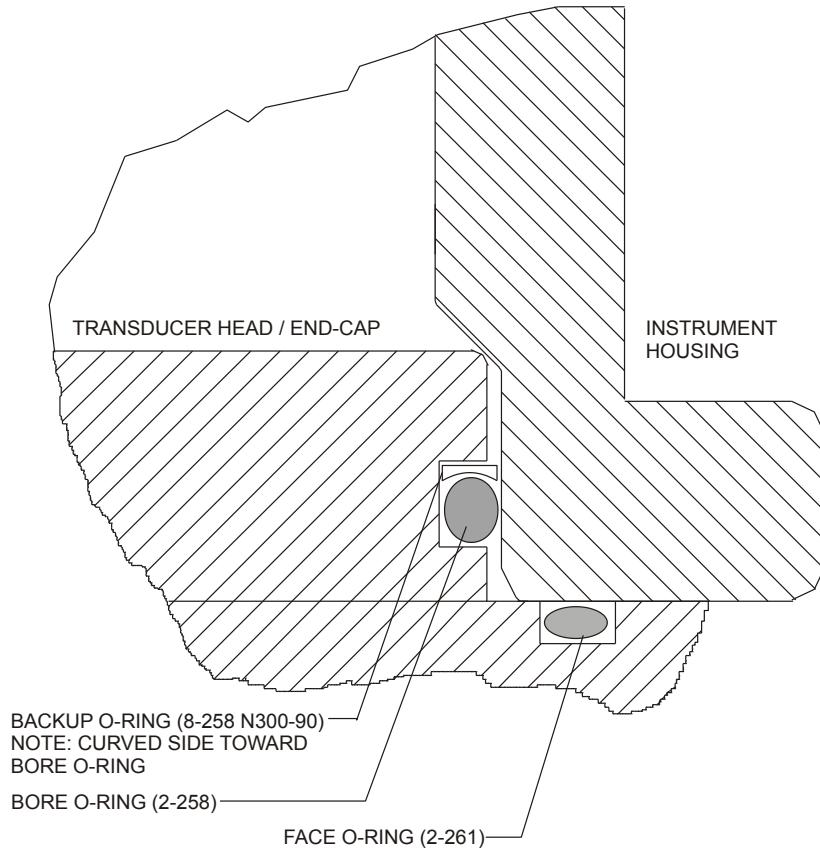

Figure 39. High Pressure O-Ring Detail View
- d. The backup O-ring (see Figure 39) is installed in addition to the 2-258 bore O-ring on the transducer head assembly for 1000, 3000, and 6000-meter high-pressure systems only. Install the backup O-ring with the cupped side facing the 2-258 bore seal O-ring.